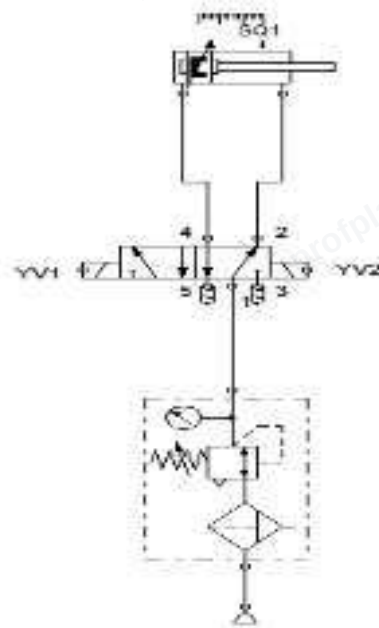

Figure 2
2. Construct the loop according to electrical and pneumatic schematics given in Figure 1 and Figure 2